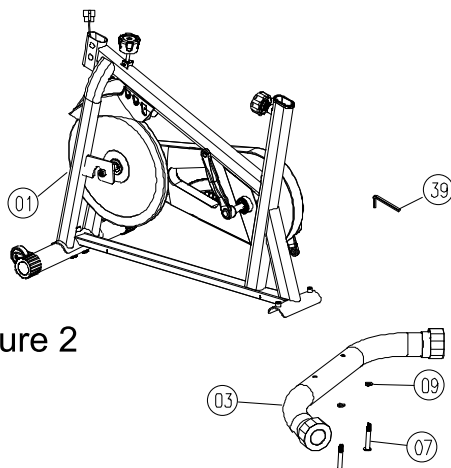

Figure 2
2. Secure the Main Frame Assembly (Part 01) to the Rear Foot Tube Assembly (Part 03) using two M8×60 hex socket button head screws (Part 07) and two $\Phi 9 \times \Phi 16$ curved washers (Part 09), as shown in Figure 2.